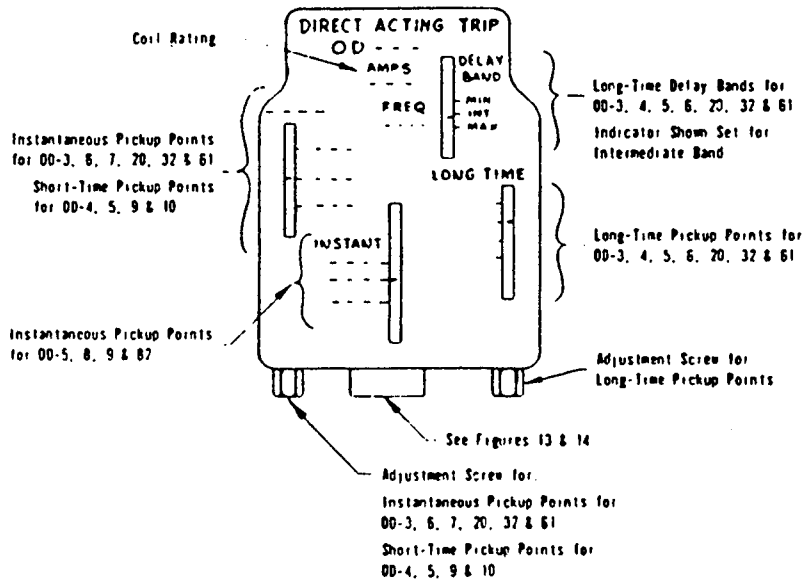

Fig. 14
Turn the adjustment until the top of the long-time delay indicator is in line with the desired delay line (Fig. 14). Push the armature toward the magnet, allowing time for the oil in the dashpot to be displaced. Release the armature, allowing the armature to reset. Check to see that the long-time indicator and line are in line. Readjust if required, and recheck by pushing the armature and allowing to reset.
**Pick-Up Setting Adjustments (See Fig. 14)**